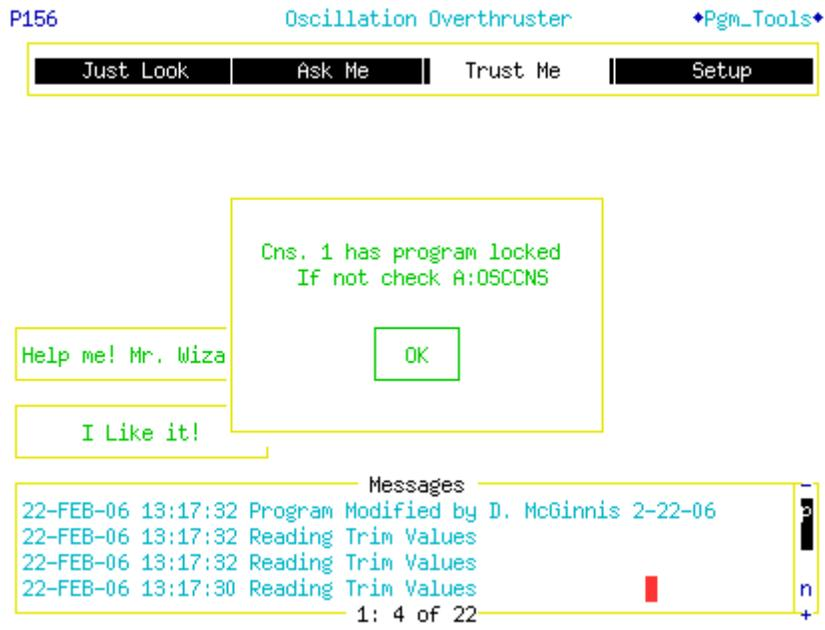

Figure 2. The "Trust Me" mode locked.
- Trust Me This mode observes the orbit, computes the trim corrections, and automatically sends the trim corrections to the control system at each iteration. To protect against two instances of the program running at the same time making corrections, the program sets a lock as shown in Figure 2. This lock is a database device A:OSCCNS. The value of A:OSCCNS is the console number that is running the program in the “Trust Me” mode. If no console is running in the “Trust Me” mode, the value of A:OSCCNS is zero and the lock is released. If the